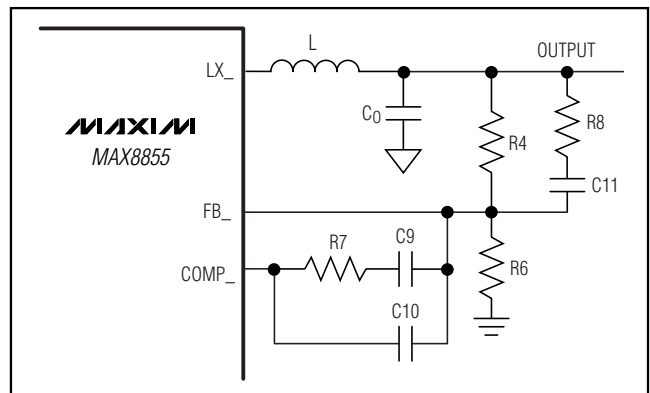

Figure 4. Type III Compensation Network
The output voltages for regulator 1 (with REFIN connected to SS1) and regulator 2 are set with a resistor voltage-divider connected from the output to FB\_ to GND as shown in Figure 4. Select a value for the resistor connected from output to FB\_ (R4 in Figure 4) between 2kΩ and 10kΩ. Use the following equations to find the value for the resistor connected from FB\_ to GND (R6 in Figure 4):
The high-switching-frequency range of the MAX8855 allows the use of ceramic output capacitors. Since the ESR of ceramic capacitors is typically very low, the frequency of the associated transfer-function zero is higher than the unity-gain crossover frequency,  $f_{\text{C}}$ , and the zero cannot be used to compensate for the double pole created by the output filtering inductor and capacitor. The double pole produces a gain drop of 40dB and a phase shift of  $180^\circ$  per decade. The error amplifier must compensate for this gain drop and phase shift to achieve a stable high-bandwidth closed-loop system. Therefore, use type III compensation as shown in Figure 4. Type III compensation possesses three poles and two zeros with the first pole,  $f_{\text{P1\_EA}}$ , located at 0Hz (DC). Locations of other poles and zeros of type III compensation are given by: